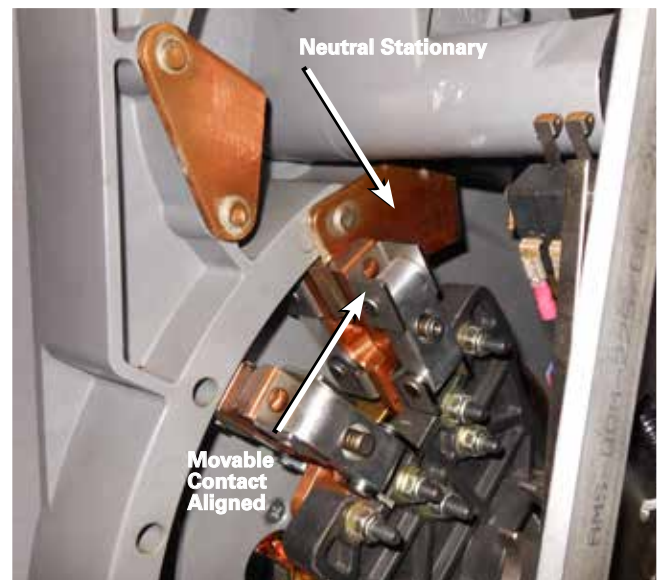

Figure 24. Main movable contact aligned with neutral stationary for installation of the actuator finger.
23. Rotate the movable contact insulator arm so the only one of the movable contacts is engaging the neutral stationary contact as shown in Figure 24. This should line the arm up with the Geneva gear so that the actuator finger pocket in the arm is across from the bolt holes used to attach the finger to the Geneva gear.